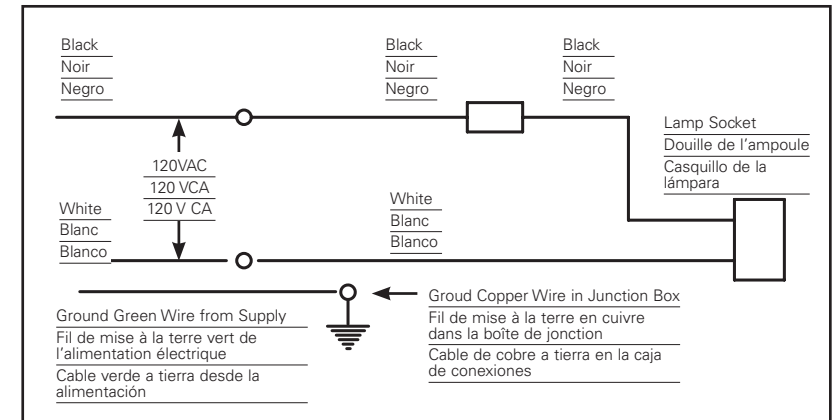

Figure 6
- If using non-metallic cable, place cable into “SLIDE N SIDE™” cable trap (Figure 5/Figure 6).